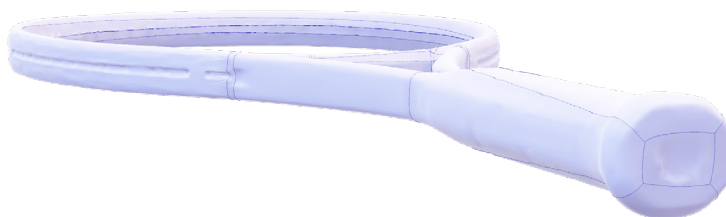

Figure 9: Tennis racket CAD geometry
3. Choose the tennis racket scan data and select the tick presented on the screen to convert the scan data to CAD geometry, as shown in Figure 9.